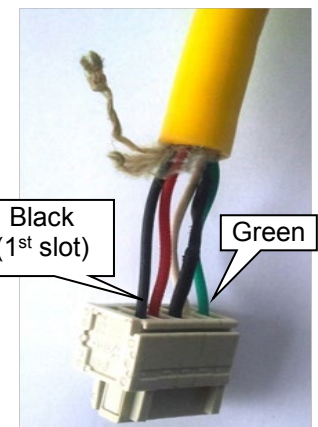

Figure 8-13: Connecting the sensor cable to sensor end connector
- Black (B) in the first slot.
- Red (R) in the second slot.
- Shield (S) in the third slot.
- White (W) in fourth slot.
- Green (G) in fifth slot.
8.7.16 Verify wiring of sensor cable to 5 pin connector as per figure 8-13.